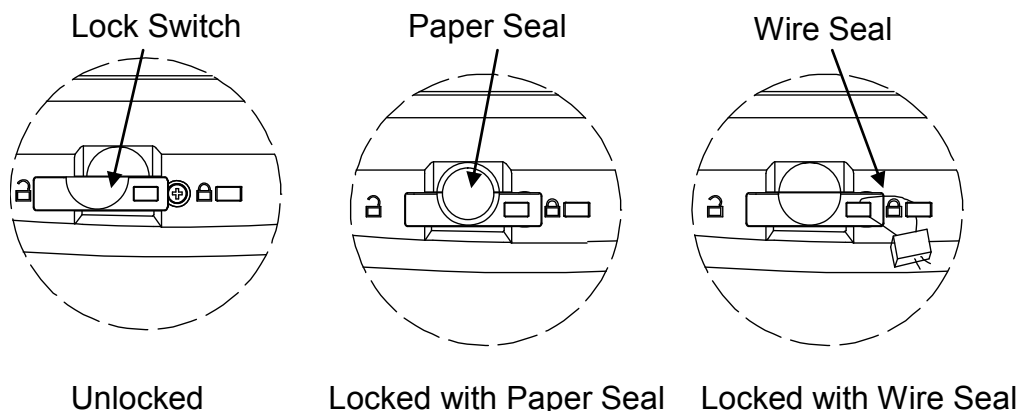

Figure 5-2. Sealing
3. Set the switch to Locked. See figure 5-2.